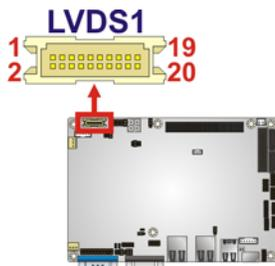

Figure 3-11: LVDS1 Connector Locations
- CN Location:** See **Figure 3-11**